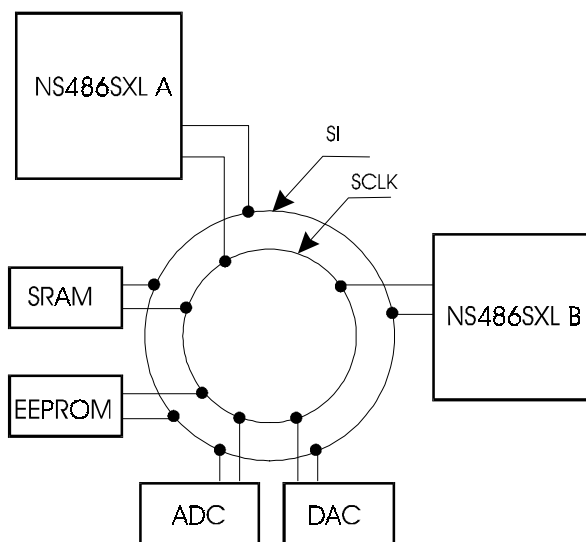
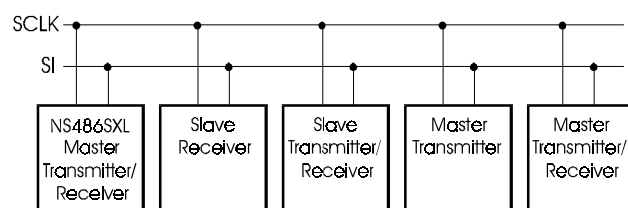

Figure 3-16 A Sample Access.bus System
Figure 3-17 Multiple Resources
Access.bus is a two wire interface that allows bidirectional communications between ICs. The two interface lines are the serial data line (SI), and the serial clock line (SCLK). Access.bus system configuration examples are shown in Figure 3-16 and Figure 3-17. As illustrated, Access.bus supports multiple masters and multiple slaves.
As shown in Figure 3-16 and Figure 3-17, it is possible to have more than one master on the bus. Because of this, an arbitration protocol has been included in the Access.bus implementation. The arbitration protocol depends on a wired-AND connection to the devices on the bus and clock synchronization. If two or more masters attempt to start a transfer at the same time, the master transmitting to the lowest address will win the arbitration.